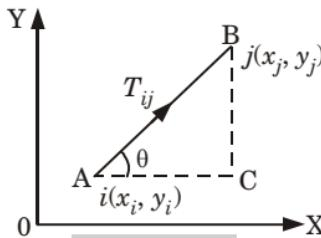

Fig. 2.11.1.
- Let end A is at node  $i$  and end B is at node  $j$ , as shown in Fig. 2.11.1 and let the pull in the member  $AB$  is  $T_{ij}$ , then at node ' $i$ ', (at point  $A$ )